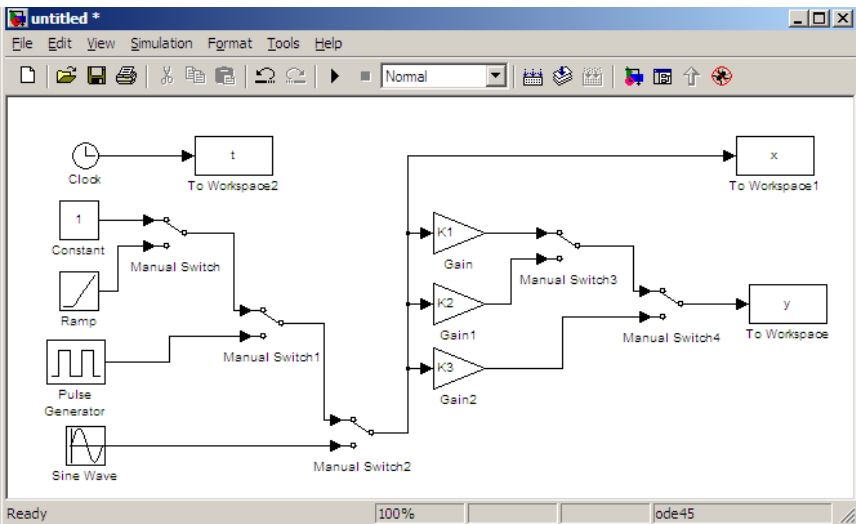

Figure 1.13 – Block diagram for studying the Gain block with different input signals
5. Build the block diagram and locate its blocks as shown in Figure 1.13
Enter K in the *Gain* field of the **Block Parameters: Gain**, as shown in Figure 1.21,*b*, for the corresponding Gain block in Figure 1.13.
Find and move the Manual Switch block icon from the Simulink Library Browser to the created Untitled Window. Connect all the blocks together with connecting lines between the output and input ports, as shown in Figure 1.13.
Find and move the To Workspace block icon from the Simulink Library Browser to the created Untitled Window. Connect the To Workspace blocks together with the connection lines between the output ports of the Clock block and the Manual Switch block, as shown in Figure 1.13.
- in the *Variable name* field, enter the name of the variable whose data is saved to the clipboard. In the lab class, the block diagram in Figure 1.13 has:
So, the block diagram in Figure 1.13 is created.